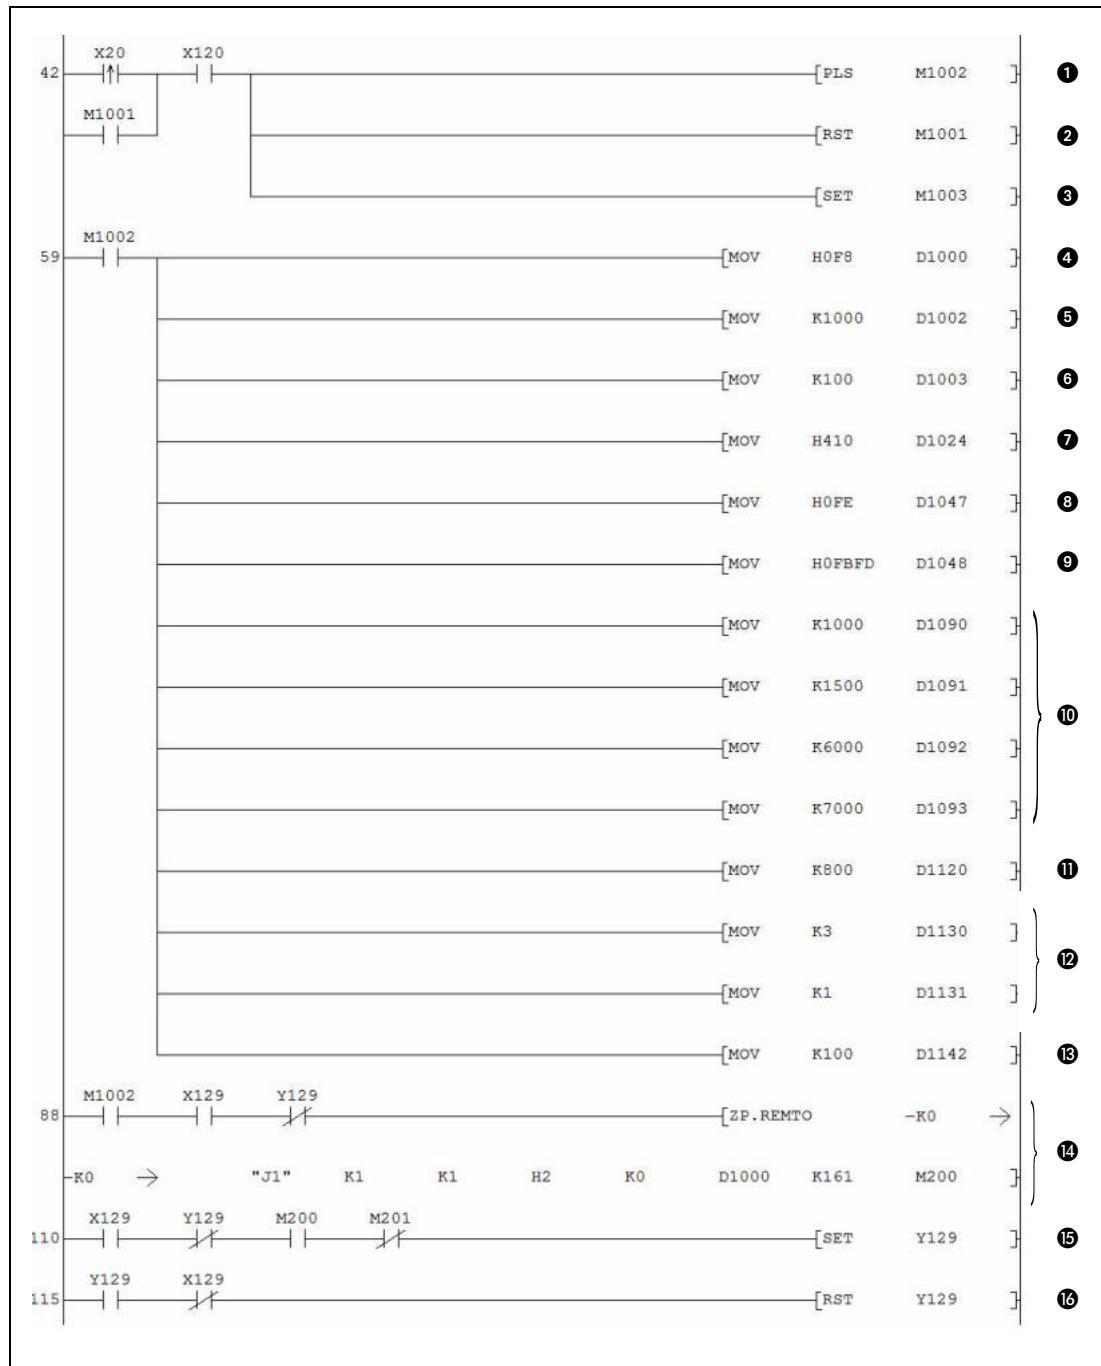

Fig. 6-13: Initial settings performed by the sequence program
②	When an input error has been detected and the reset signal (X21) is ON, the error clear request (Y12F) is set.
③	In case of an error the error code is read and stored in D9. Then the error code is output in BCD.
④	The error clear request (Y12F) is set.
⑤	When there is no error indicated, the error clear request (Y12F) is turned OFF.
⑥	The HART field device status is read and stored in internal relays (SM400 is always ON).	Status of device connected to CH1
⑦		Status of device connected to CH2
⑧		Status of device connected to CH3
⑨	Processing when a malfunction of a HART field device is detected.	Device malfunction at CH1
⑩		Device malfunction at CH2
⑪		Device malfunction at CH3
⑫	Master control reset (Only when the input condition for the MC instruction (fig. 6-13) is set, the instructions between the MC and the MCR instruction are executed.)